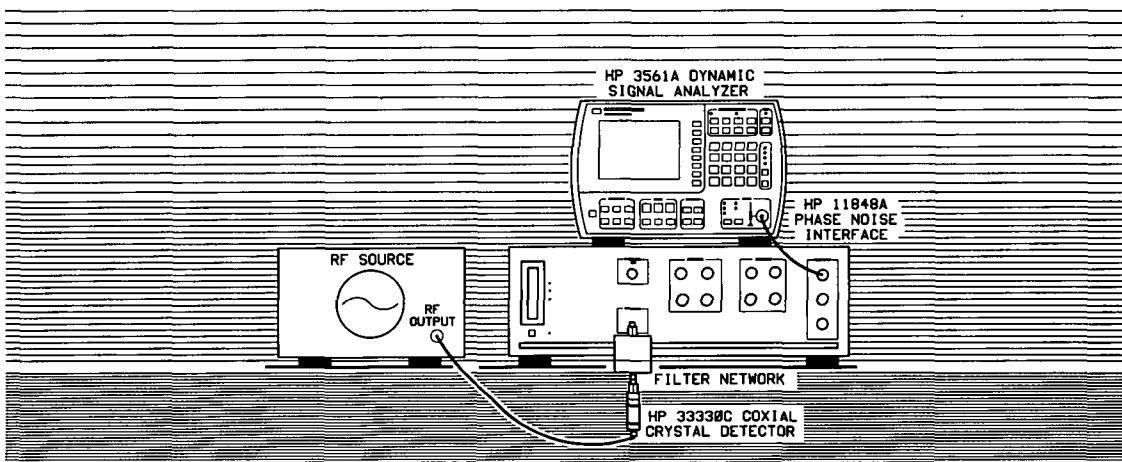

Figure 3-30. Setup Diagram for AM Noise Measurement Example.
- 3. When the Connect Diagram appears on the HP 3048A's display, connect the signal paths as shown in Figure 3-30.** Table 3-24 contains setup considerations that will help ensure that your measurement results are valid.